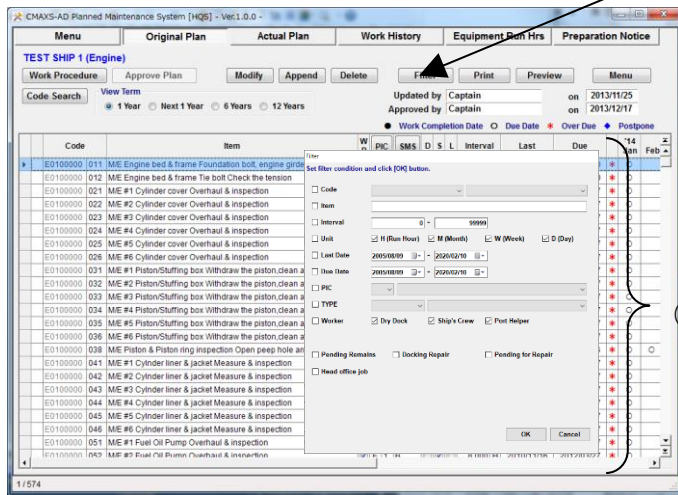

Fig.13-3 Original Plan Screen
(1) Select [Filter] button on the "Long Term Plan Screen"(Fig.13-3).
(2) Select or enter extracting conditions. Then, select [Ok].